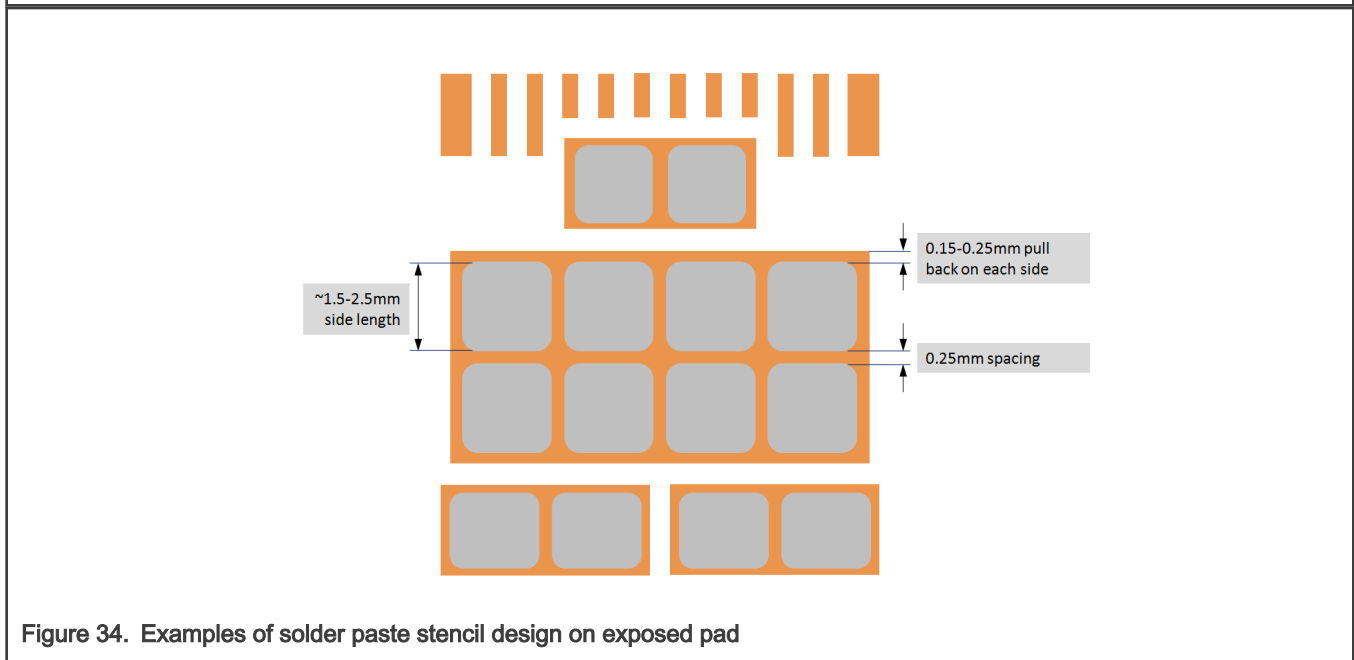

Figure 34. Examples of solder paste stencil design on exposed pad
- A large stencil opening may result in poor release. Additionally, during the solder screen print operation, a stencil blade can both deposit solder paste, and remove, or “scoop” it out, in the large aperture openings. In the large openings, the blade bends down into the opening thereby leaving less solder volume than anticipated. To mitigate the effect of scooping, the aperture should be broken up into an array of smaller openings, i.e. by subdividing the aperture opening into an array of smaller openings, similar to the pattern shown in Figure 34
- The distance/spacing between the individual array stencil openings should be at least 0.250mm, as shown in Figure 34.